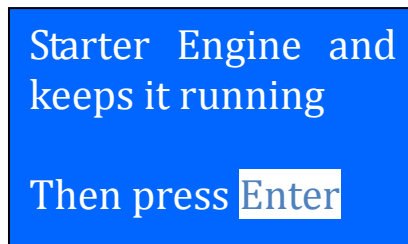

Figure 52
- 5. Press  key to continue and the display will show: (Fig.52)